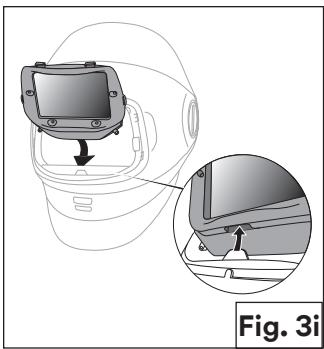

Fig. 3i
- Reinstall the ADF into the outer welding shield by first setting the bottom of the ADF into the opening at the center of the outer welding shield. Next, tip the ADF into the outer welding shield and firmly press on the two locking tabs until an audible “click” is heard (Fig. 3i).